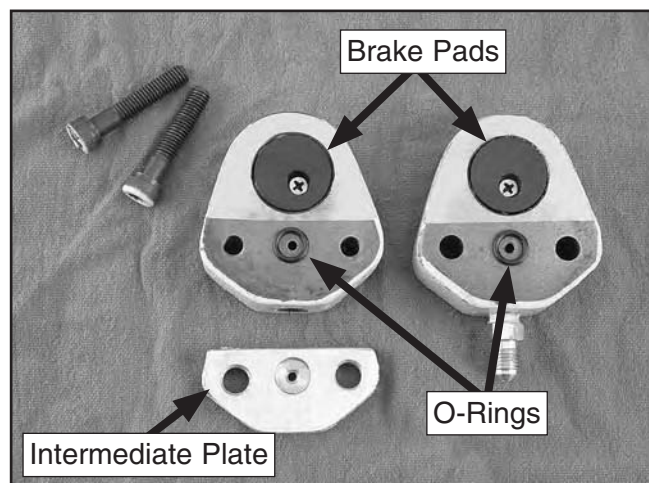

Figure 134. Caliper components.
7. While holding the caliper together, carefully remove it from the vise and place it on a clean shop rag, then separate the housings and intermediate plate, as shown in **Figure 134**.